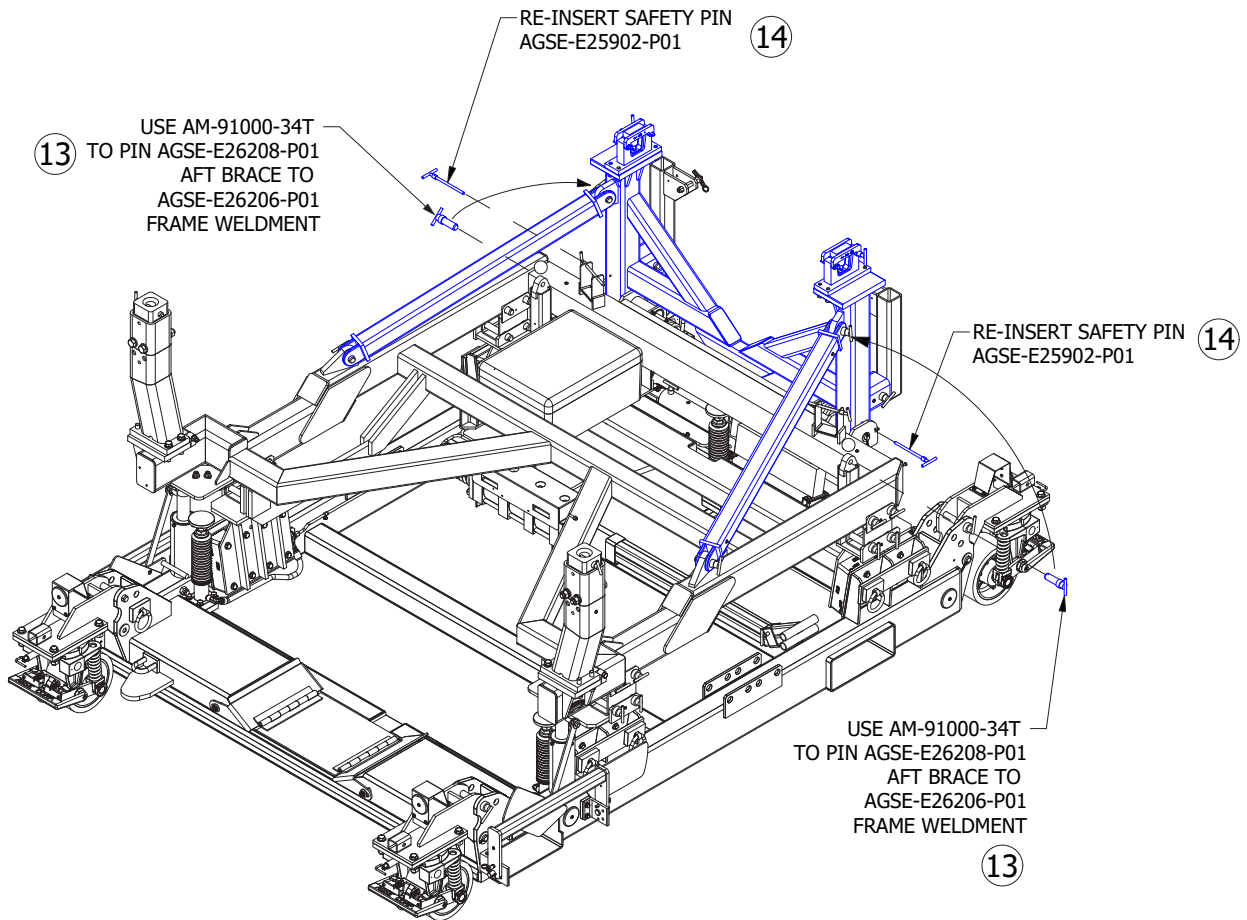

Figure 5.1-6
- 13) Attach the AFT braces to the frame weldment and secure with two (2) AM-91000-34T safety pins. (Illustration Figure 5.1-6).
- 14) Re-insert two (2) AGSE-E25902-P01 safety pins. (Illustration Figure 5.1-6).